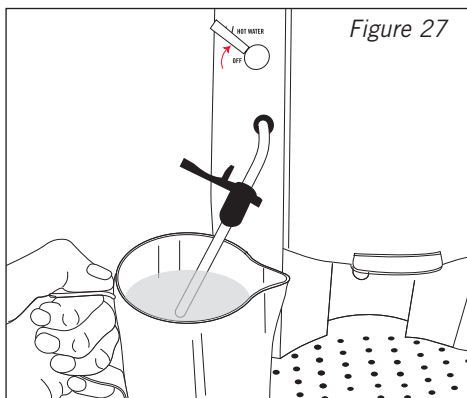

Figure 27
- Swing the steam nozzle out to the side of the machine and hold the jug under the steam nozzle so that the nozzle opening is completely immersed in the milk. Turn the 'steam/hot water' switch up to activate the steam and commence frothing the milk. See figure 27.